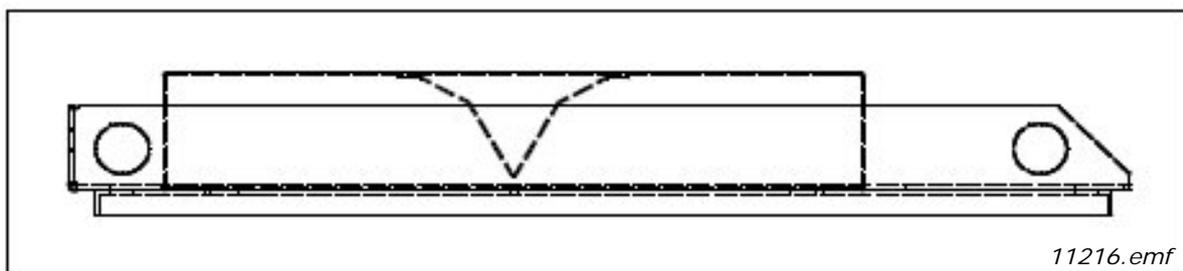

Figure 41. Roof structure seen from the side
**NOTE!** If a flat roof is used, mount a V-shaped air guide on the underside of the roof to direct the air flow horizontally. See Figure 41.